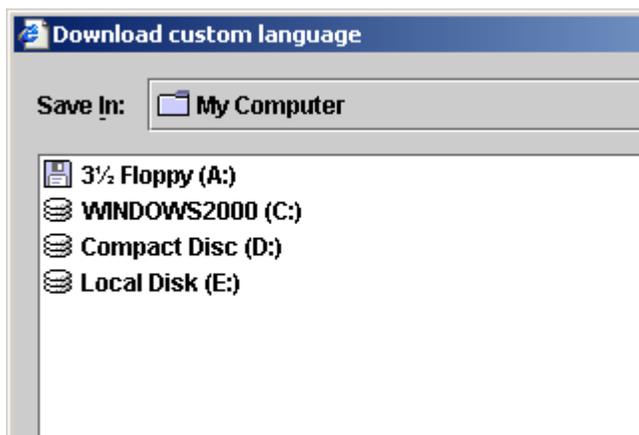

FIG. 38 Download Custom Language
**Download custom Language** - saves the current system language to the PC. This file is opened and a custom language added to the B column of the Excel file. See FIG. 38.